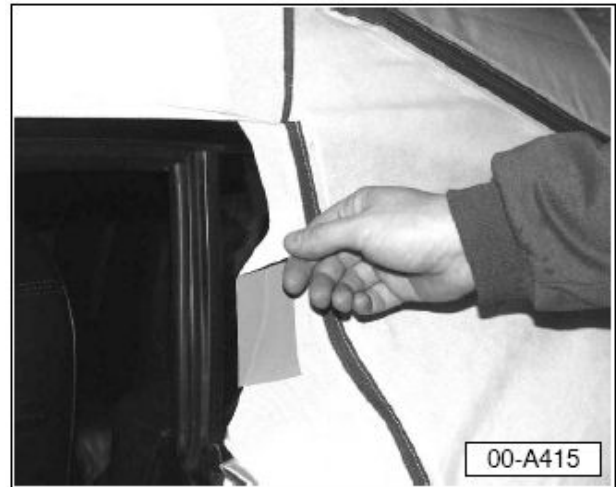

Figure 5. Remove tape.
5. Remove tape from area adjacent to B-pillar (Figure 5).